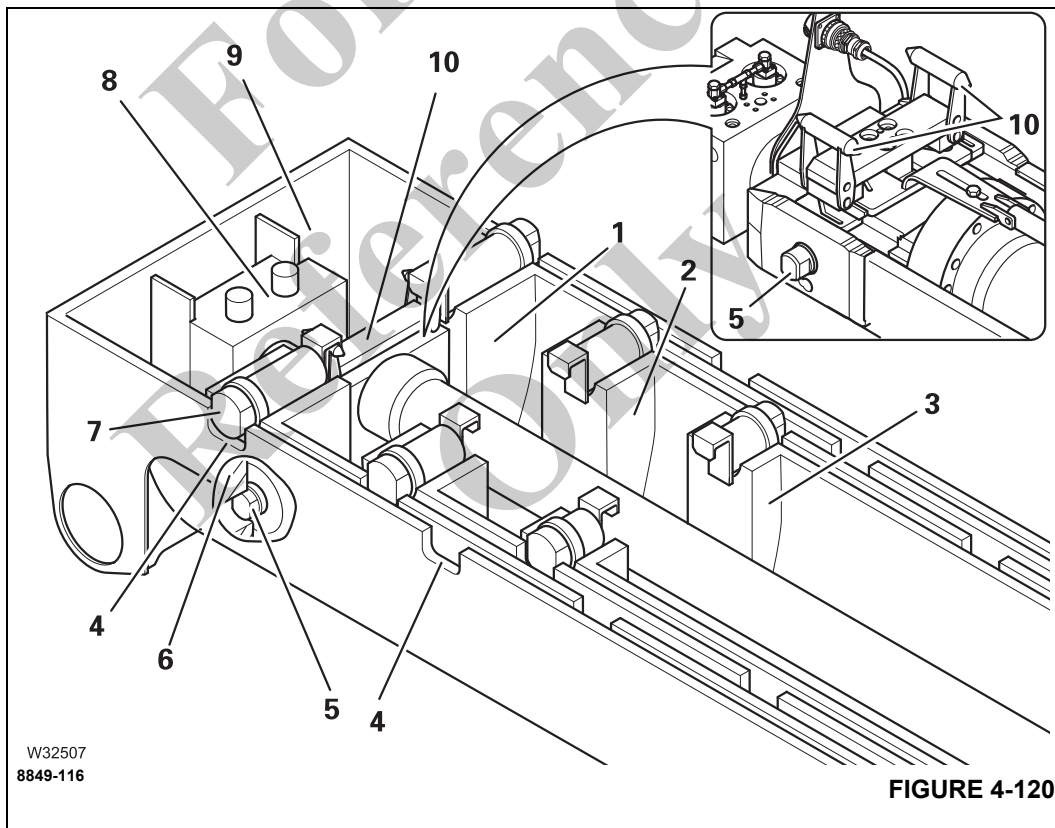

FIGURE 4-120
The illustration (Figure 4-120) shows the completely retracted main boom with the base section (9) and the first three telescopic sections I to III (1) to (3).
Refer to (Figure 4-120). Each telescopic section is equipped with two-section locking pins (7) which are extended by spring force.